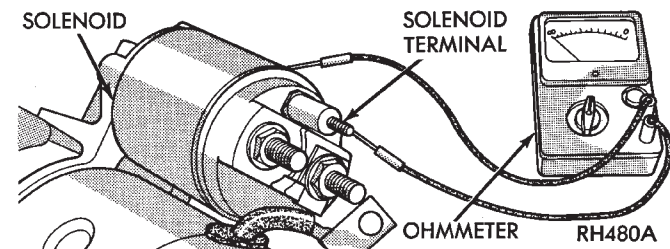

Fig. 8 Continuity Test Between Solenoid Terminal and Solenoid Case
(3) Check for continuity between solenoid terminal and solenoid case. There should be continuity (Fig. 8).